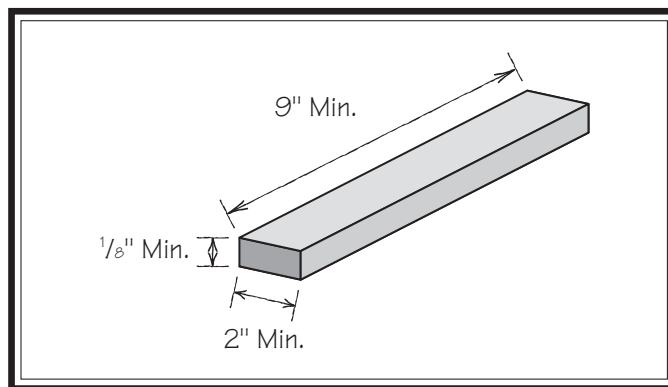

Figure 14. Minimum dimensions for sanding.
- **Minimum Stock Dimensions:** DO NOT sand boards less than 9" long, 2" wide, and 1/8" thick to prevent damage to the workpiece and to reduce the risk of your hands contacting the abrasive belt (see **Figure 14**).